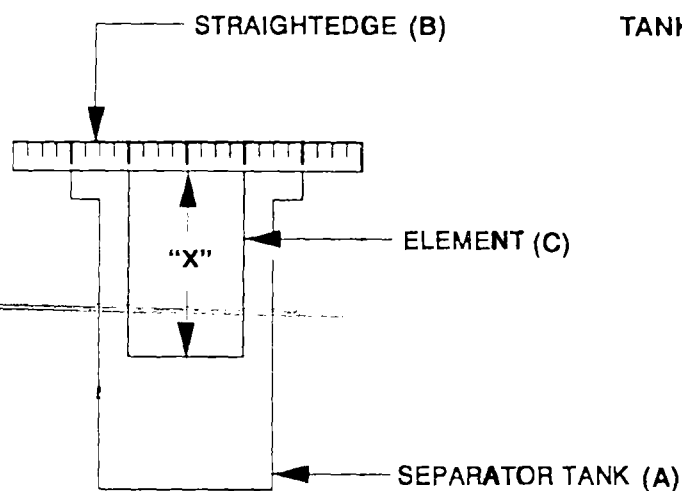
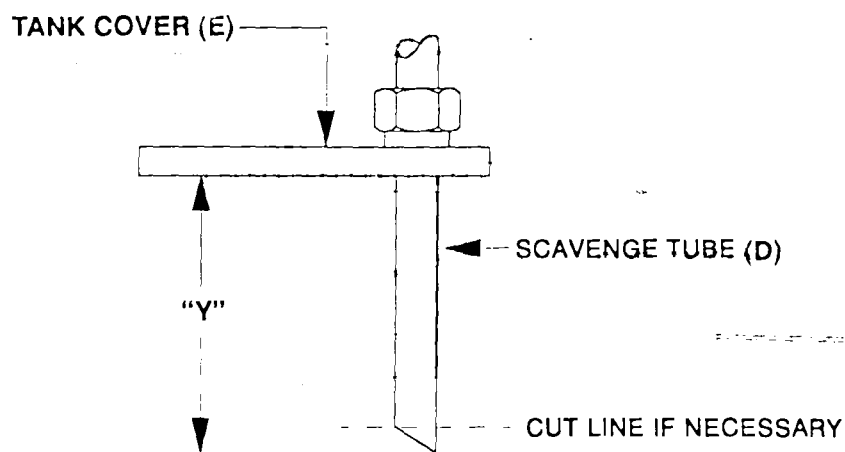

Figure 4.1 Element Measurement
Figure 4.2 Tube Measurement
- \* Place a straightedge (B) across top of element (C) and measure ("X") from bottom of straightedge to bottom of element (See Fig. 4.1).
- \* Replace scavenge tube (D) in cover (E) (cover is still off of tank).
- \* Measure ("Y") from bottom of cover to end of scavenge tube (See Fig. 4.2). Measurement "Y" should be from 1/8" to 1/4" less than the measurement "X". If not, cut to size.